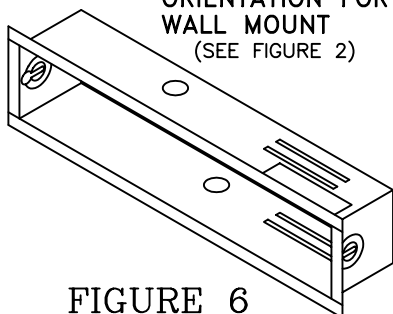

FIGURE 6
**NOTE:** Backbox **MUST** be mounted in correct orientation. For correct backbox orientation, ceiling or wall mount, refer to Figure 6.